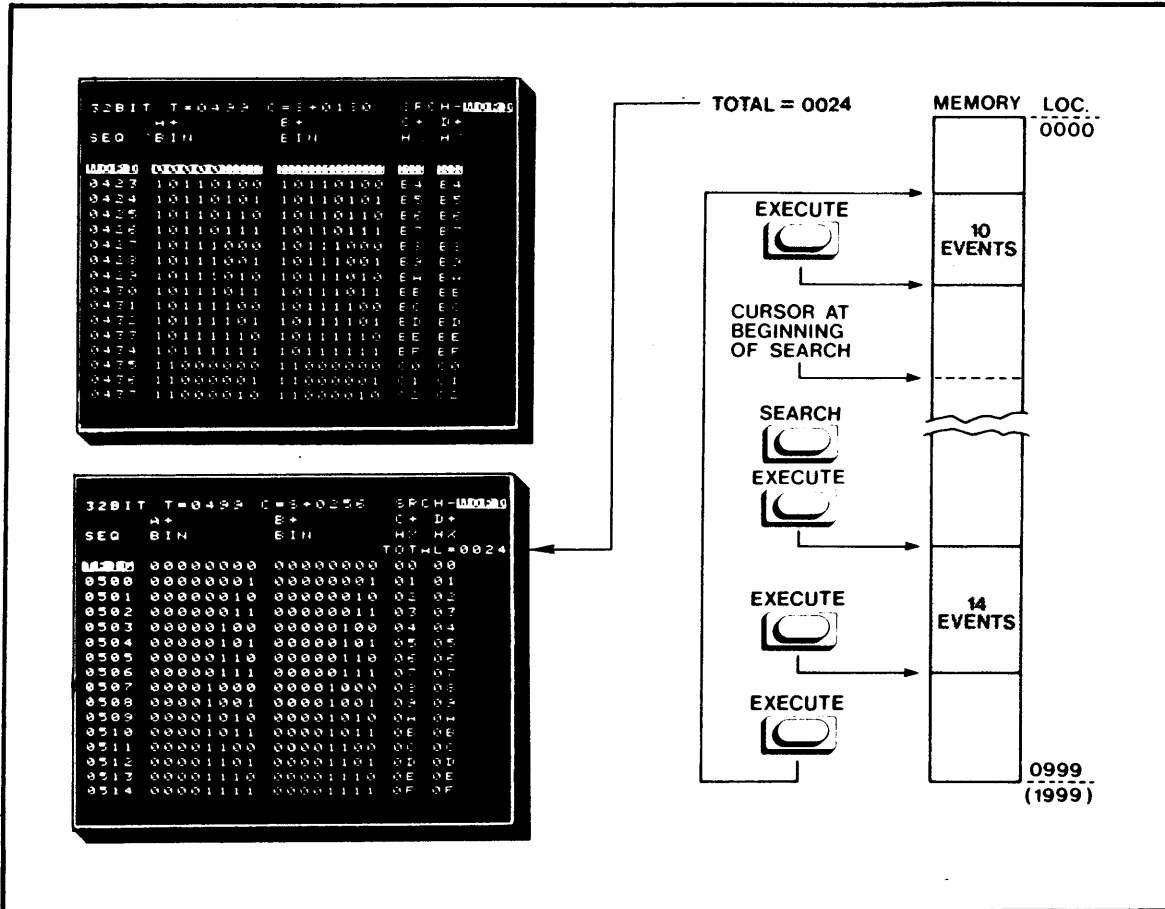

FIGURE 5-40. EXECUTING SEARCH IN LIST DISPLAY
**5.5.8.4 Interpreting S=R, S≠R, and WORD Search Results.** See Figure 5-40 for reference in the following section. At every true event of the programmed mode, an internal counter is incremented beginning at 0, and is shown in the "TOTAL" field heading. After the search is executed, the cursor moves automatically to the beginning position of the next search event in the programmed mode. The automatic direction of cursor movement is towards the higher number in memory location. As with the Memory Control functions for the LIST DISPLAY, differences of data are also shown in inverse video. An indication of the present cursor position is shown in the "SEARCH EVENT" field heading as well as the "CUR=XXXX" field.